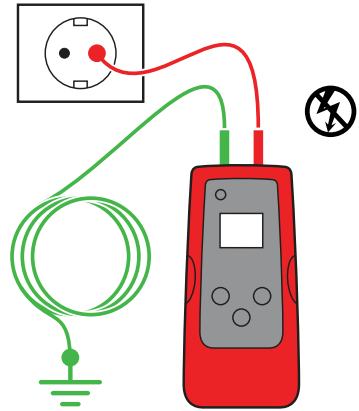

Figure 3.3a
3. Connect green lead to a separate ground (metal building structure, metal water pipe, or ground wire / Protective Ground (PE) on a separate circuit).
**ATTENTION:** Due to safety reasons this is only allowed in de-energized circuits. (see figure 3.3a) Do not use a ground wire that runs in parallel to the wire you are going to trace, as it will reduce or cancel tracing signal.